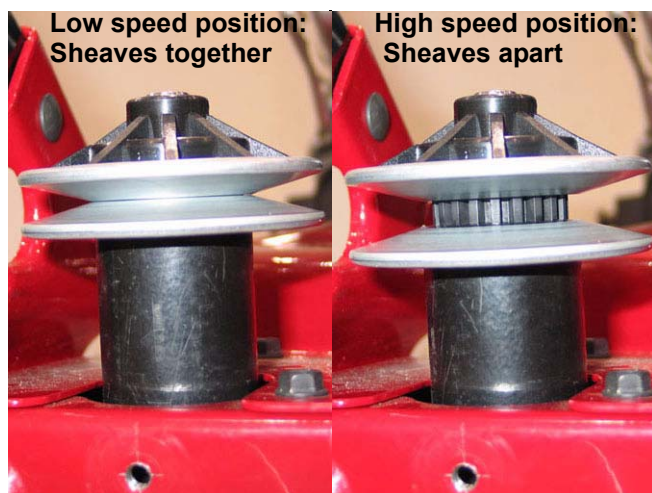

Figure 2.4
- 2.4. Watch the travel of the variable speed sheave (pulley) on the input shaft. It may be necessary to remove the belt to confirm that the variable speed sheave has full travel. See Figure 2.4.
NOTE: Belt removed for clarity in figure 2.4